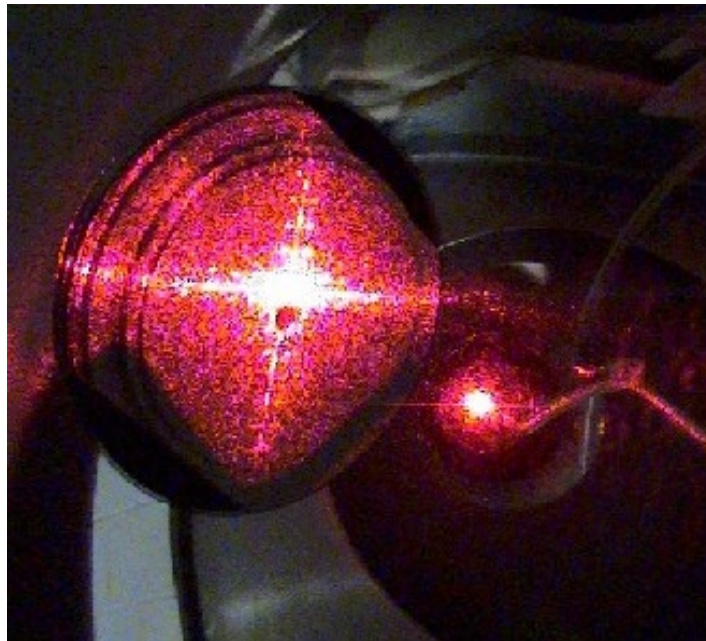

Figure 4
- Align the turret/lens mount such that the cross pattern clears up and loses most of its "dots" (see figure 4)